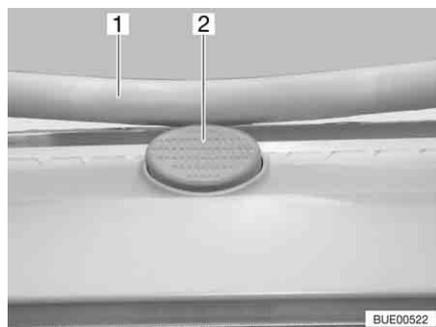

Fig. 68 Safety knob on the Heki skylight
- Press the safety knob (Fig. 68,2) and pull the bar (Fig. 68,1) down with both hands.
- Push the bar upwards with both hands until it is above the safety knob (Fig. 68,2).